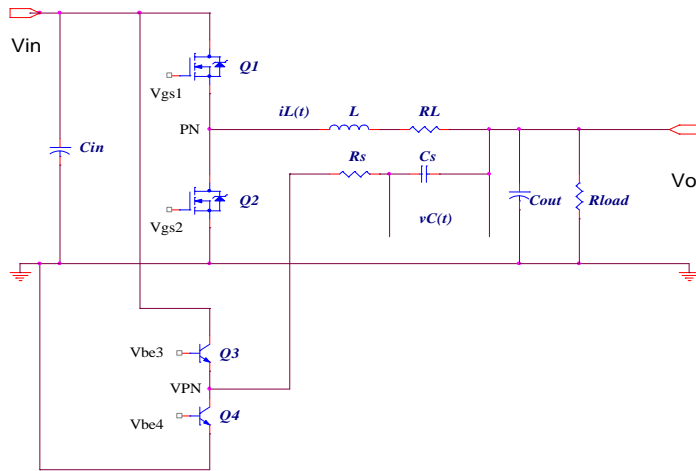

Fig.1 The Basic Structure of Combi-Sense.
The basic structure of the Combi-Sense is shown in Fig.1. Where  $R_L$  is the equivalent resistance of the output inductor. The added  $R_s$  and  $C_s$  form the RC branch in "parallel" with the output inductor for inductor current sensing. This branch works with a small signal totem pole (Q3 and Q4) integrated in SC4510 in order to improve the signal-to-noise ratio. The base signals Vbe3 and Vbe4 are designed to closely follow the gate signals Vgs1 and Vgs2, respectively. Ideally, the leading and falling edges of the Virtual Phase Node (VPN) follow that of the Phase Node (PN) when Q1~Q4 switch in perfect synchronism.
When Q1/Q3 turn ON and Q2/Q4 turn OFF, the equivalent circuit of Fig.1 is shown in Fig.2 a). Where,  $R_{ds1}$  is the on-resistance of the top MOSFET. The two branches, consisting of  $\{(R_{ds1}+R_L), L\}$  and  $\{R_s, C_s\}$ , are in parallel. The DC voltage drop  $(R_{ds1}+R_L)I_o$  equals  $V_{cs}$ . In this way, the output current is sensed from  $V_{cs}$  when  $(R_{ds1}+R_L)$  is known.
When Q1/Q3 turn OFF and Q2/Q4 turn ON, the equivalent circuit of Fig.1 becomes the sub-circuit as shown in Fig.2 b). Where,  $R_{ds2}$  is the channel resistance of the bottom MOSFET. In this case, the branch  $\{R_s, C_s\}$  is in parallel with  $\{(R_{ds2}+R_L), L\}$  and  $V_{cs}=(R_{ds2}+R_L)I_o$ .
In SC4510, the current limiting is performed on cycle-by-cycle basis. When the voltage difference between CS+ and CS- exceeds 65 mV, the top MOSFET duty ratio is clipped in order to limit the output source current. Similarly, when the voltage difference between CS- and CS+ exceeds 113 mV, the bottom MOSFET duty ratio is clipped in order to limit the sink current. For the configuration in Fig.1, the converter output current limit is set around